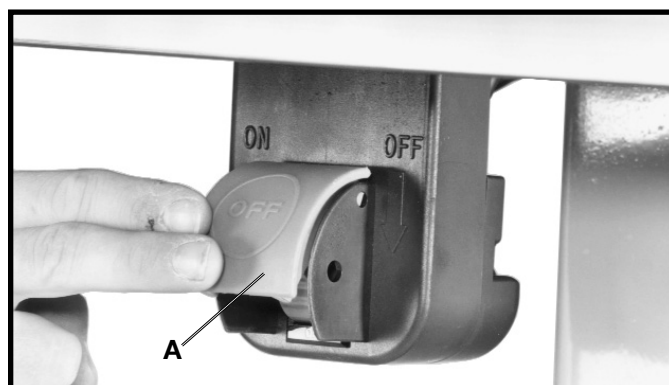

Fig. 42
2. To turn the saw "OFF", push down on switch shield (A) Fig. 42.